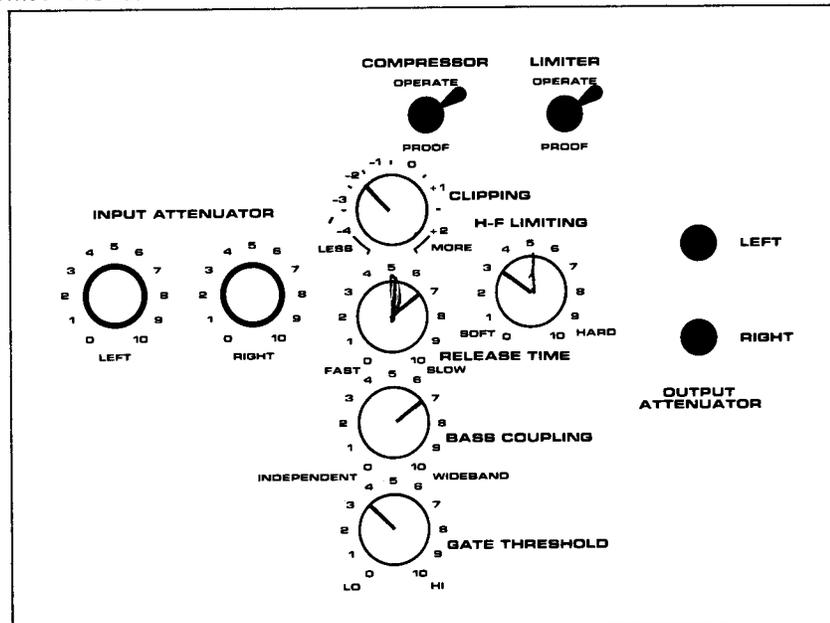

Fig. 4-5: RECOMMENDED INITIAL CONTROL SETTINGS
These listening tests are made with OPTIMOD-TV set up according to our **Recommended Initial Control Settings** in Fig. 4-5. They are intended to detect obvious problems with audio quality which must be resolved before final adjustments are made. Once initial listening tests are passed, you can proceed to adjust OPTIMOD-TV setup controls according to subjective requirements.
- a) Adjust OPTIMOD-TV controls according to Fig. 4-5. Do not adjust the INPUT ATTEN or OUTPUT ATTEN controls at this time. If you have a dual-chassis system, DO NOT READJUST THE MAIN CHASSIS INPUT ATTEN CONTROLS UNDER ANY CIRCUMSTANCES!
See Fig. 4-5 for recommended initial setup.